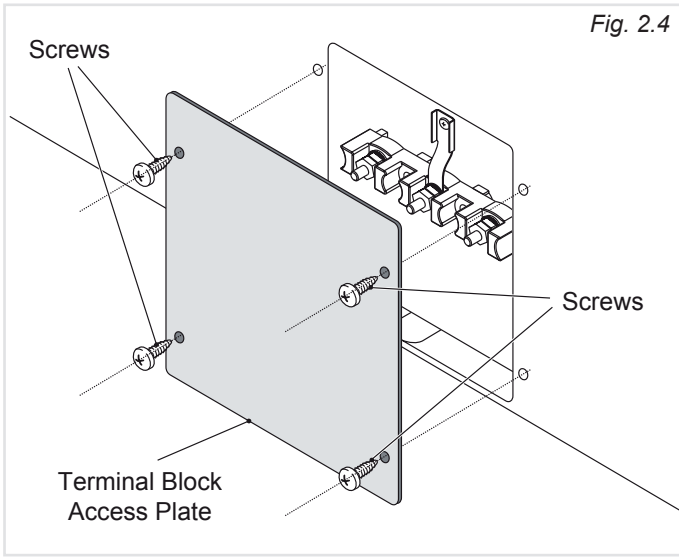

Fig. 2.4
**3-Wire Conduit Installation** (See figures 2.4 and 2.5)
1. Remove the **Terminal Block Access Plate** on the back of the range by unscrewing the 4 fixing **Screws** (figure 2.4).
**4-Wire Conduit Installation** (See figure 2.4 and 2.6)